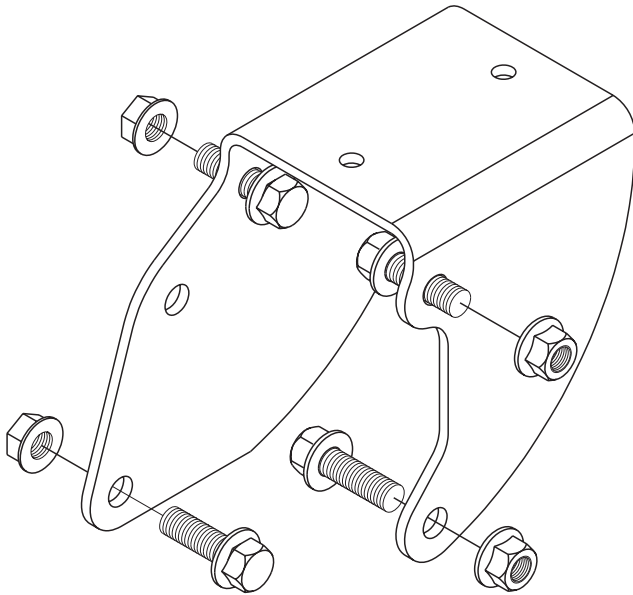
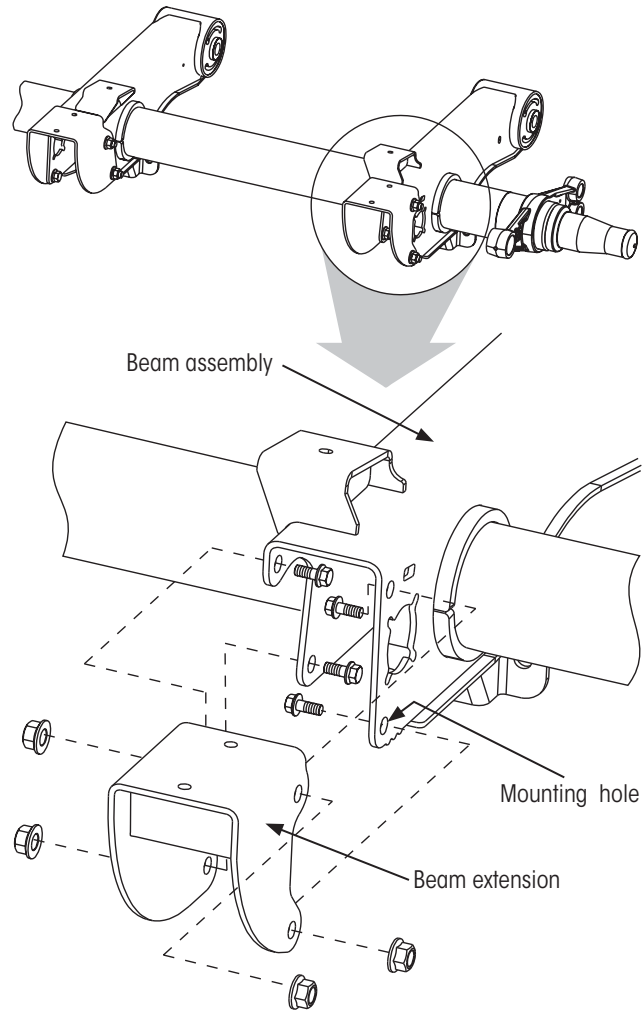

Figure 74: Bolt-on rear beam extensions
Figure 75: Beam extension installation for HKAT 46K (HKA200), HKAT 50K (HKA250), HKAT 69K23 and HKAT 69K25
1. **Slide** a beam extension over the end of the rear suspension beam as shown in Figure 75.
3. **Install** the four 5/8-inch nuts and bolts, provided with the kit, so the hex heads are on the inside of the beam assembly (Figure 74 and Figure 75) and the nuts are on the outside.